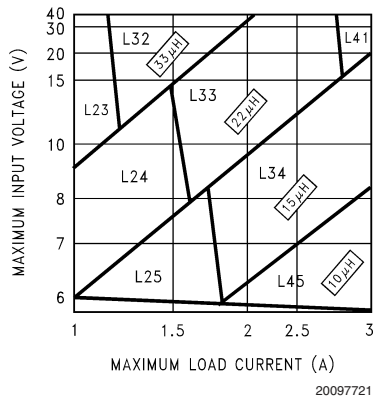
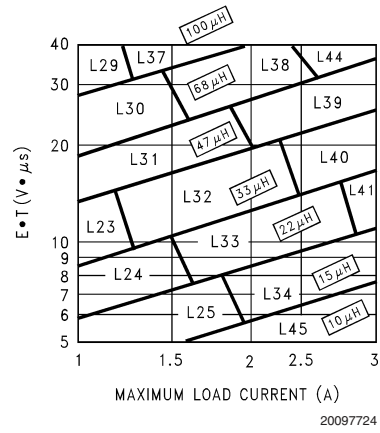

FIGURE 3. LM2670-3.3EP
FIGURE 6. LM2670-ADJEP
**Step 3:** Determine the inductor required by using one of the four nomographs, *Figure 3* through *Figure 6*. Table 1 provides a specific manufacturer and part number for the inductor.
**Step 5:** Determine an input capacitor from Table 4 for fixed output voltage applications. Use Table 2 to find the specific capacitor type. For adjustable output circuits select a capacitor from Table 2 with a sufficient working voltage (WV) rating greater than  $V_{in\ max}$ , and an rms current rating greater than one-half the maximum load current (2 or more capacitors in parallel may be required).
**Step 3:** Use the nomograph for the 3.3V device, *Figure 3*. The intersection of the 16V horizontal line ( $V_{in\ max}$ ) and the 2.5A vertical line ( $I_{load\ max}$ ) indicates that L33, a 22 $\mu H$  inductor, is required.
**Step 3:** To use the nomograph for the adjustable device, Figure 6, requires a calculation of the inductor Volt•microsecond constant ( $E \cdot T$  expressed in  $V \cdot \mu s$ ) from the following formula:
Using Figure 6, the intersection of  $27V \cdot \mu s$  horizontally and the 2A vertical line ( $I_{load\ max}$ ) indicates that L38, a 68µH inductor, should be used.
**Important Note:** When using the adjustable device in low voltage applications (less than 3V output), if the nomograph, Figure 6, selects an inductance of 22µH or less, Table 6 does not provide an output capacitor solution. With these conditions the number of output capacitors required for stable operation becomes impractical. It is recommended to use either a 33µH or 47µH inductor and the output capacitors from Table 6.